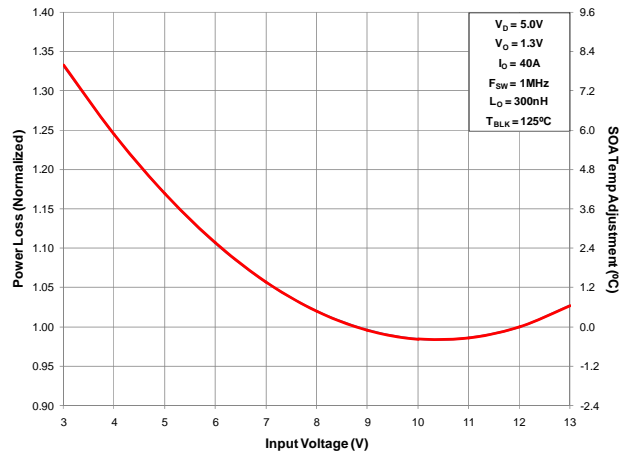

Figure 3 Normalized Power Loss vs. Input Voltage
- (Figure 3) Normalized power loss for input voltage ≈ 0.98
- (Figure 3) SOA temperature adjustment for input voltage $\approx -0.5^{\circ}\text{C}$